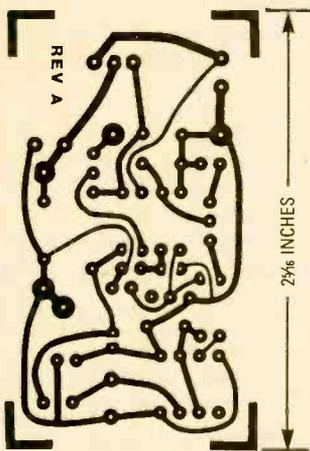
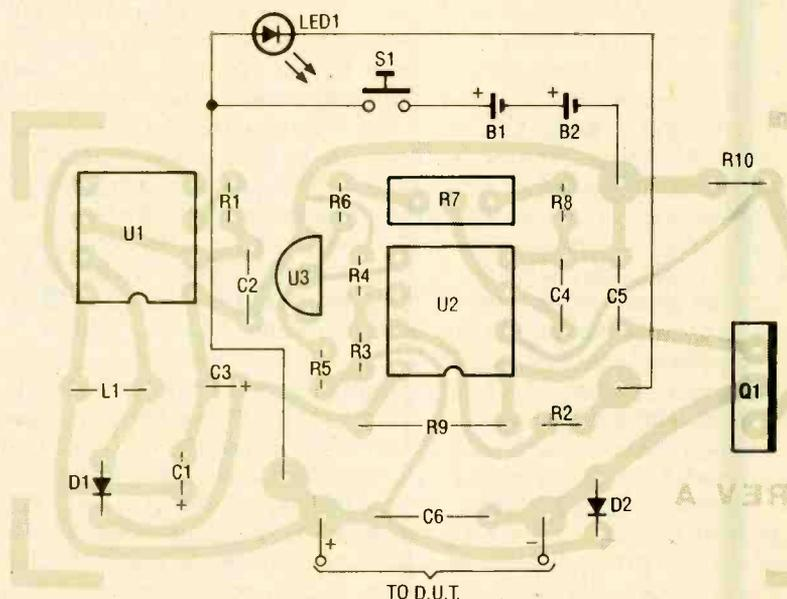

Fig. 3. Using this foil pattern to generate a printed-circuit board will make the assembly of your own current injector a snap.
Fig. 4. Follow this diagram to stuff the circuit board. Be sure to orient all the polarity-sensitive parts properly as you proceed.
Next, you'll need to build the rest of the circuit on a suitable platform. The circuit is not complicated and could easily be built breadboard-style. Alternatively, if you wish to, you can etch your own printed-circuit board using the foil pattern shown in Fig. 3. Consult the parts-placement drawing (see Fig. 4) for the correct component placement, being careful to note the orientation and polarity of the components.
together as shown in Fig. 4. Solder all connections.
Once you've etched your board and gathered all the parts listed in the Parts List, construction can begin. A parts-placement diagram for the Tel-Tale's printed-circuit board is shown in Fig. 3. In the author's prototype, a single 16-pin IC socket is used for both U1 and U2 (6- and 8-pin devices, respectively). You can do the same thing, or, if you happen to have 6- and 8-pin sockets on hand, you can use individual sockets. In any event, using sockets prevents damage to the IC's during soldering, and makes replacing either IC (should the need arise) simpler.
Once the IC socket (or sockets) is in place, install the rest of the components as shown in Fig. 3. Note that because of tight spacing R1, R2, and D1 were vertically mounted to the cir-
Fig. 3. Once you've etched your board and gathered all the parts listed in the Parts List, construction can begin, guided by this parts-placement diagram. In the author's prototype, a single 16-pin IC socket is used for both U1 and U2 (6- and 8-pin devices, respectively).
Fig. 3. When installing a new station, map out the route that the wire run is to take. If the new station is to be located in another room, which often requires that a hole be drilled through a wall, avoid (as best you can) AC receptacles.
**Adding a New Station.** Adding a new station (extension phone) is nearly as easy as installing a new phone in an existing telephone outlet; the only difference is that you'll have to run wire from the closest terminal block to the new location and terminate it with a modular jack (see Fig. 3).
For the wire run, you'll need an appropriate length of quad color-coded station wire, not the flat line type. Station wire—which is designed for both inside and outside use—differs from line cord in that its conductors are solid, as opposed to the stranded stuff used for line cord (see Fig. 4). The insulation of the station wire is also thicker than that of the line cord. That's important since most wire runs are secured to the walls' base boards using a staple gun. If the gun is not properly positioned before the staple is released, it could (and often does) pierce the cable insulation. That often results in either shorting two or more wires or severing them altogether.
*Fig. 4. Station wire—which is designed for both inside and outside use—differs from line cord in that its conductors are solid, as opposed to the stranded stuff used for line cord, and it is round rather than flat. The insulation of the station wire is also thicker than that of the line cord.*